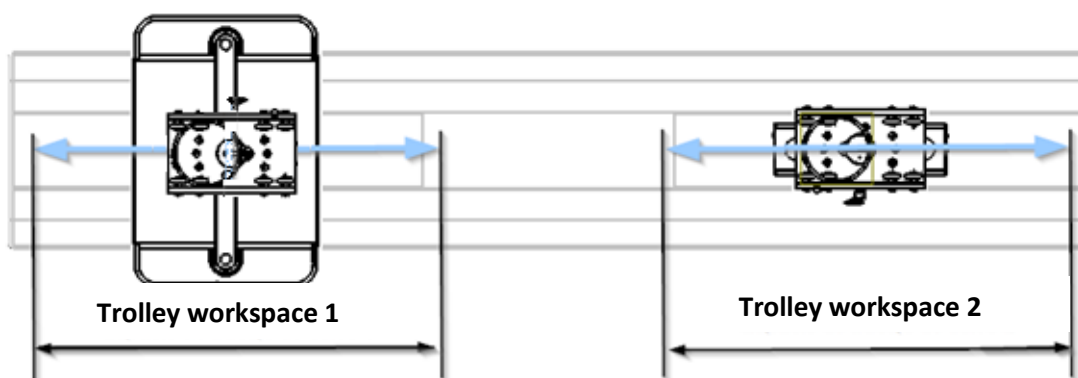

Fig.15 Adjusting the travel limit switches. Maximum stroke
- Remove the M8 hex nuts (3) (3) and S10 lock washers (4) and store them in a safe place.
- Fit the threaded bolts (2) and use them to anchor the suspension chassis to the downpipe as shown in the picture on the left in figure 15, but do not tighten them completely.
- Make sure that the equipment is aligned and level. Then tighten the M8 nuts (3) (3) of all downpipes to a torque of 40 Nm.
In order to be able to work comfortably, the copper pipes should protrude about 350mm below the downpipe. At this point they should be bent in such a way that they are horizontal and above the lower face of the lower anchor of the downpipe. See picture on the left in figure 15.
The electrical cables should protrude about 200 mm from the bottom of the downpipe to ensure that the connection area (where the terminal block is located) can be reached without any problems. See picture on the right in figure 15.
The electrical connection is always made in the connection area shown in figure 15. This is located on the main body, next to one of the downpipes. All electrical hoses are numbered to identify the circuit to which they belong. The colour of the cable will indicate whether it is an earth connector, a neutral or a phase.